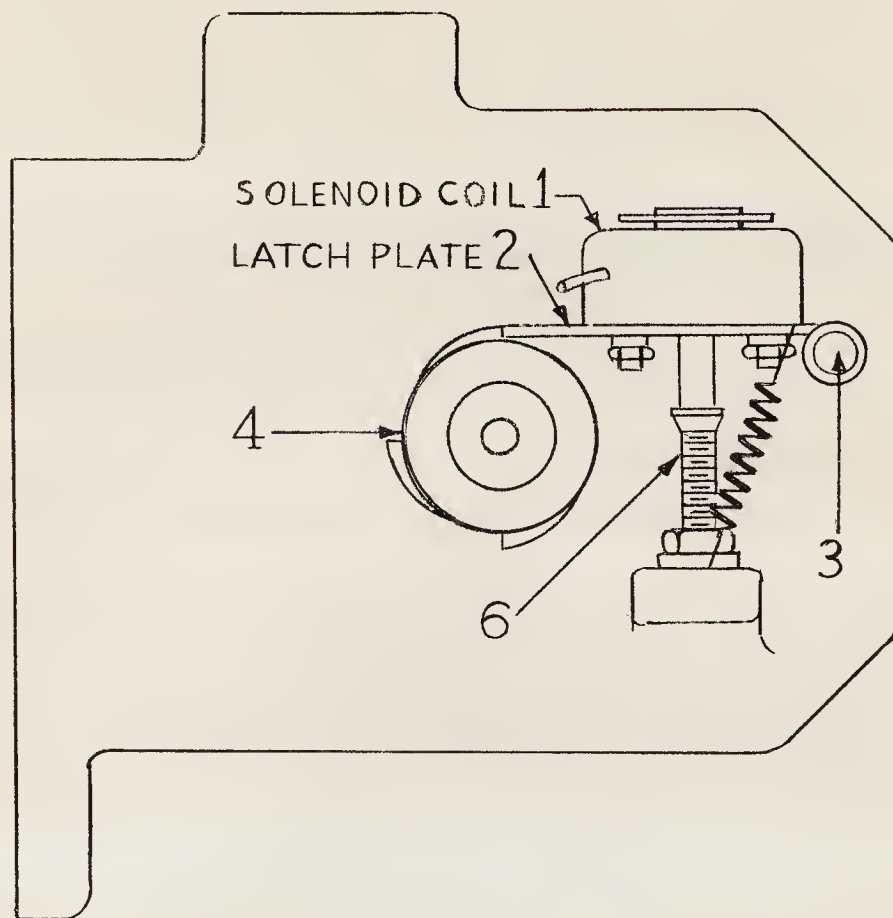

FIG.32
1. Latch Solenoid L-21 and L-22 (Fig. 32)